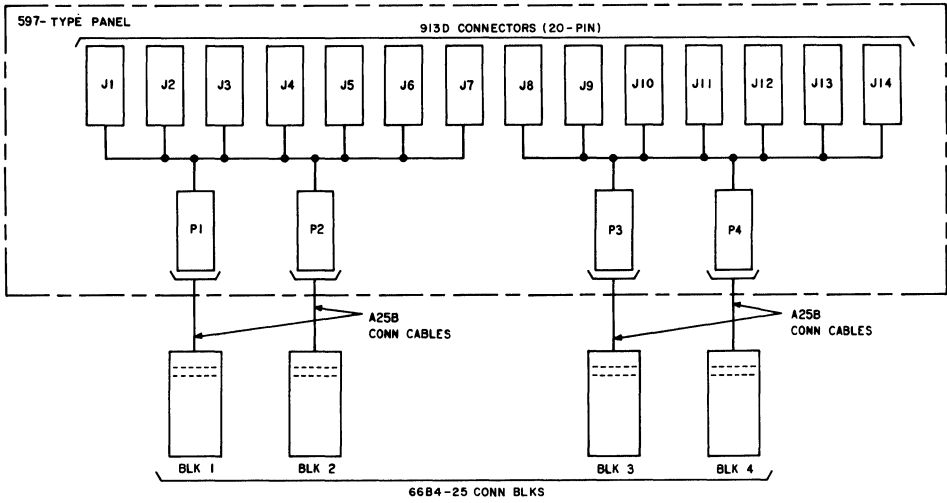

Fig. 3—597-Type Panel With Terminal Layout
4.02 Field connections are made for any KTU by determining which connector on the panel is to be used and its related connecting block (Fig. 3 or 4). For example:
- (a) If a 400-type KTU (Fig. 9 or 10) is installed in connector J1 of a 597-type panel (Fig. 3), field connections are made to terminals 1, 2, 4, and 6 on connecting block 1 and to terminals 1, 2, 3, 4, 5, and 6 on connecting block 2.
- (b) If the 400-type KTU (Fig. 9 or 10) were installed in connector J14 of a 597-type panel (Fig. 3), field connections would be made to terminals 37, 38, 40, and 42 on connecting block